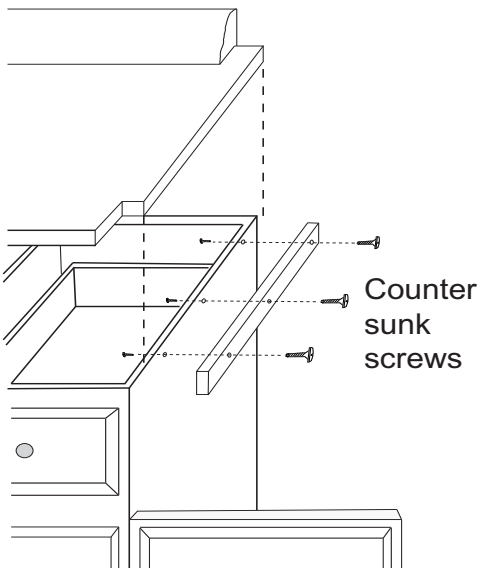
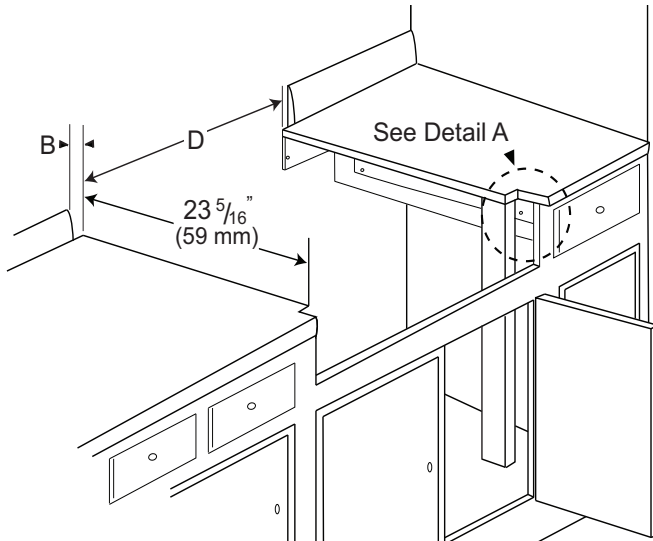

Figure 2: Installing Side Supports (both sides)
Figure 3: Wall Installation with Countertop Backsplash
3. The rangetop is designed to hang from the countertop by its side flanges. The countertop however, must be strong enough to support this rangetop. It may be necessary to add a supporting cleat along each side (see *Figure 2*) or a 2 x 4 corner brace (see *Figure 3* and *Figure 4* and Detail A). Another alternative would be to construct a deck to set the rangetop on.
4. The rangetop can be installed in various positions with the front either flush or projecting, depending on the countertop's depth. (See *Figure 5*, side view of rangetop; see *Figure 3*, *Figure 4*, *Figure 6* and *Figure 7* for alternate mounting positions.)
- Wall installation, see *Figure 3*.
- If a solid side cabinet wall exists on one or both sides, you will need to notch the front corner of the cabinet to match the countertop notch and to allow clearance for the rangetop front (see Detail A, *Figure 3* and *Figure 4*).